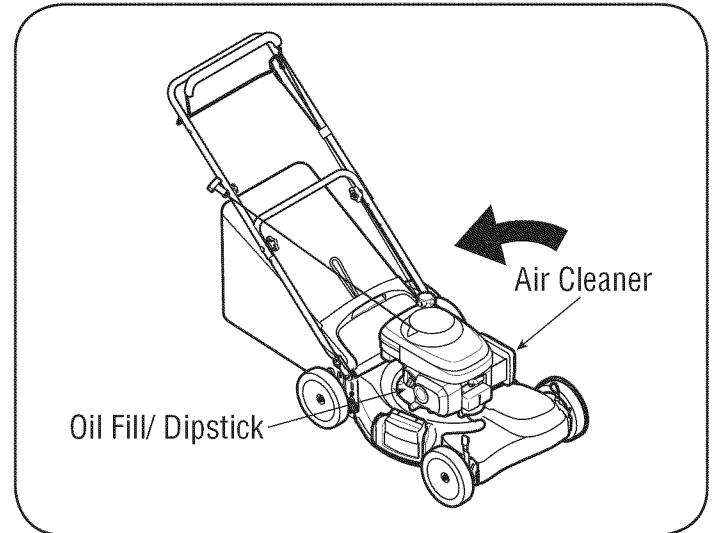

Figure 14
3. Remove the oil filler cap/dipstick and drain the oil into the container by tipping the engine toward the oil filler neck. See Figure 14.